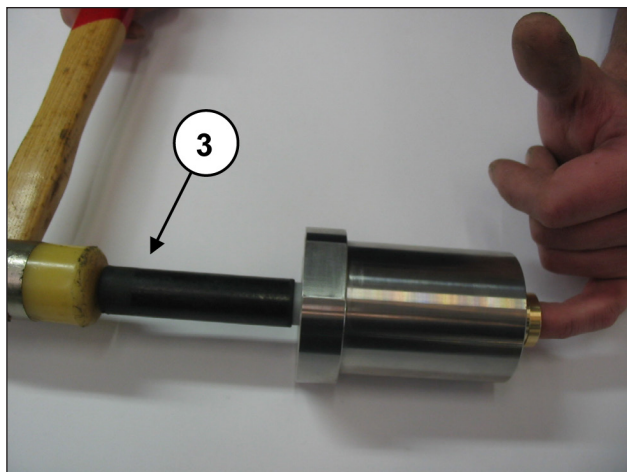
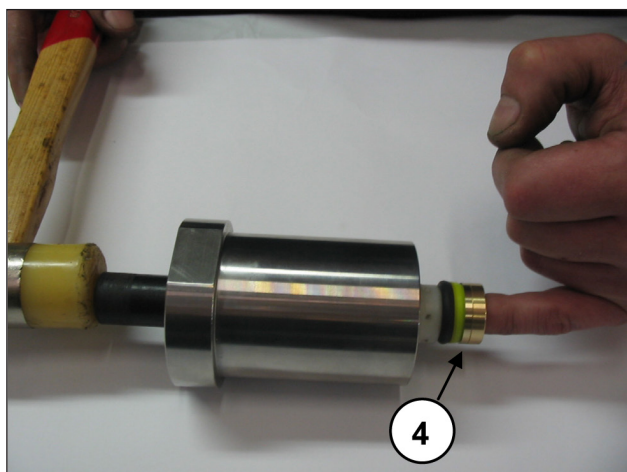

Fig. 52
Fig. 53
- With the liner separated from the sealing support and with a special plastic pin ③ as shown in Fig. 52 drive out the HP (high pressure) seal ④ as shown in Fig. 53.
**At each disassembly, the HP packing ④ Fig. 53 must be replaced.**